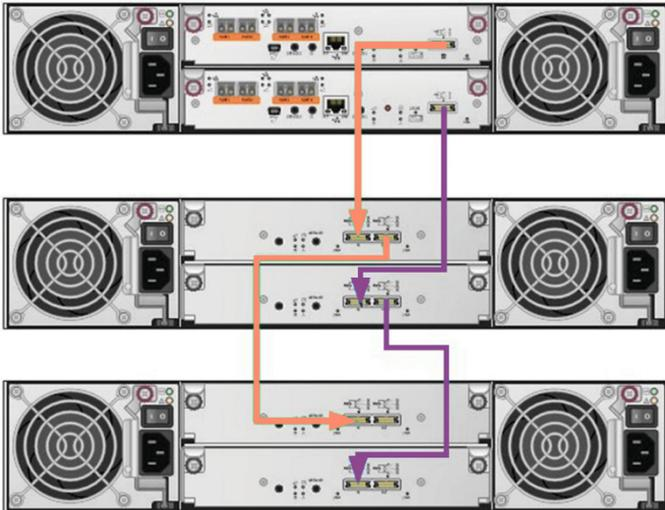
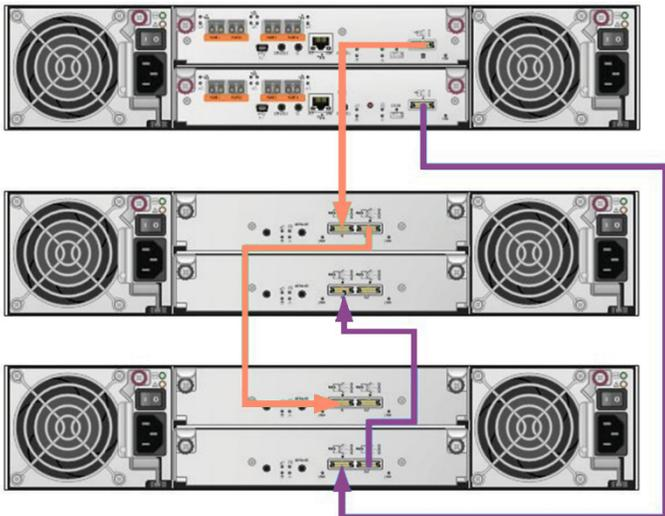

Figure 25. Straight-through cabling configuration
Figure 26. Fault-tolerant cabling configuration
- You are changing from a straight-through cabling configuration to a fault-tolerant cabling design. To determine the current cabling configuration, refer to Figure 25 and Figure 26.
- An MSA 1050/2050/2052 with a straight-through cabling configuration (Figure 25) and want to add one or more disk enclosures but continue to use the same cabling configuration, refer to the section titled Extending the straight-through cabling configuration.
- An MSA 1050/2050/2052 with a straight-through cabling configuration (Figure 25) and want to reconfigure the system with a fault-tolerant cabling configuration or add a disk enclosure by implementing a fault-tolerant configuration, read the section titled Upgrading from straight-through cabling to a fault-tolerant cabling configuration.
- An MSA 1050/2050/2052 currently configured for fault-tolerance (Figure 26) and need additional disk enclosures, read the section titled Adding storage to an existing fault-tolerant environment.